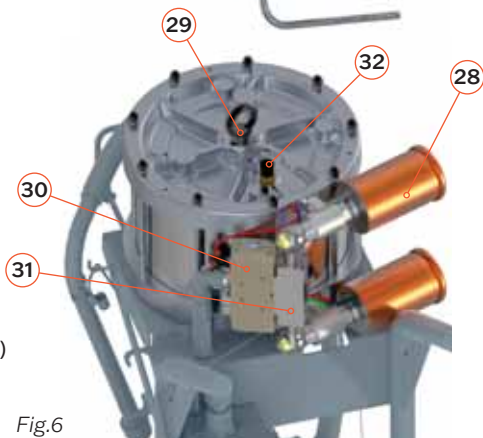

Fig.6
- 28** Air outlet (Fig. 6)
- 29** Lift Ring (713Kgf / 1573lbf Máx.) (Fig. 6)
- 30** Bistable air valve (Fig. 6)
- 31** Manifold (Fig. 6)